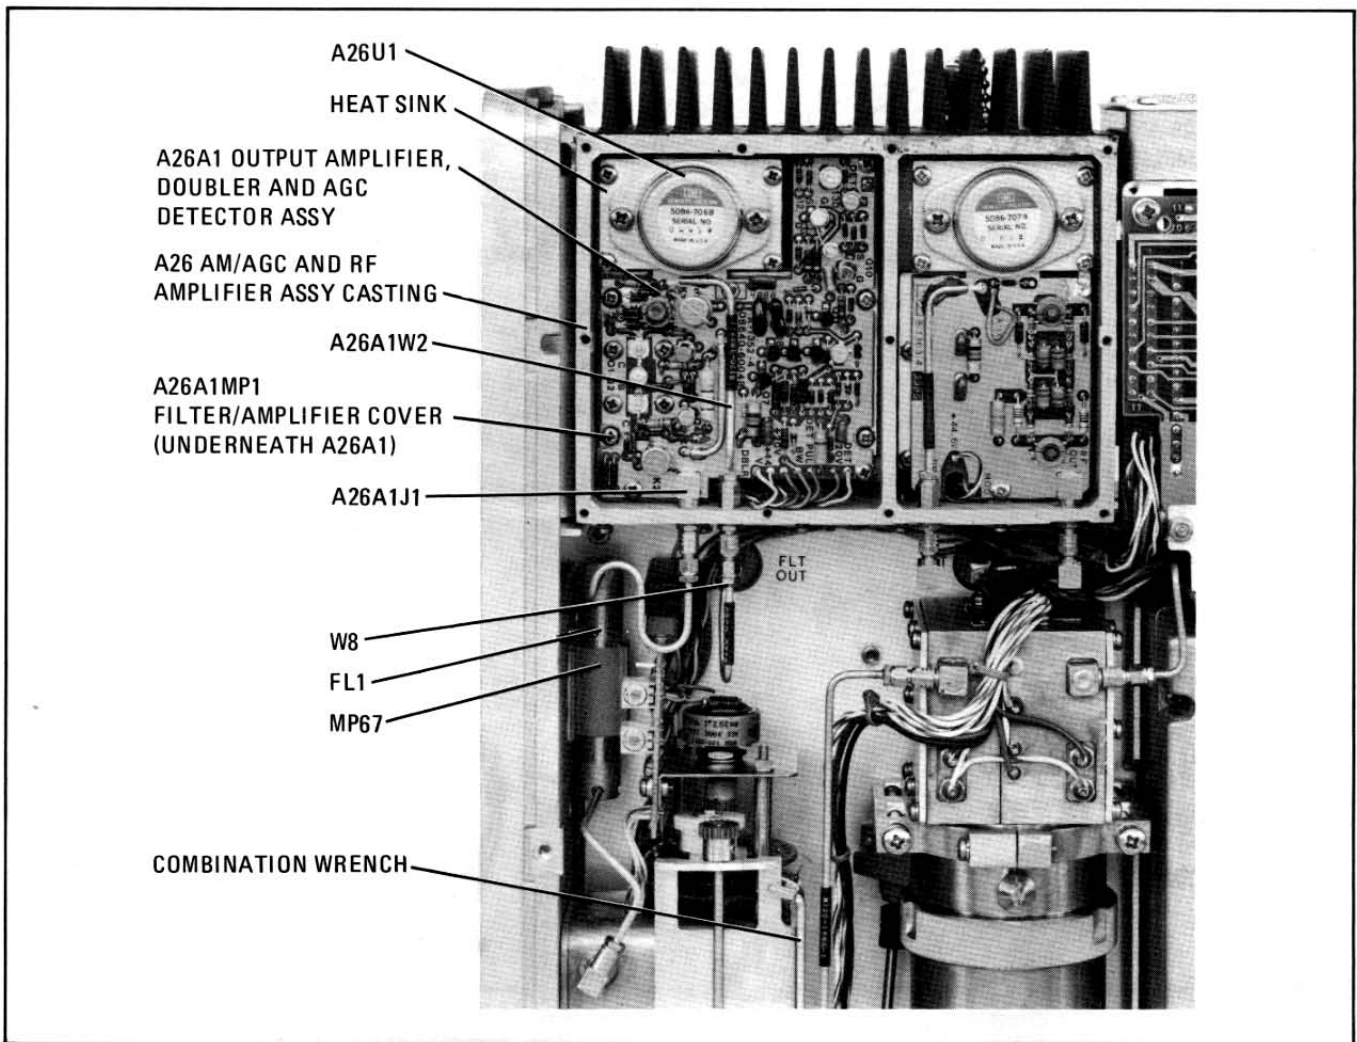

Figure 4. Bottom Internal View With Internal Doubler Kit Installed (8640B shown)
19. Solder seven leads onto new A26A1 board (HP Part No. 08640-60170). Refer to Figure 4. The sequence of the wires is the same as for the feedthrough capacitors.